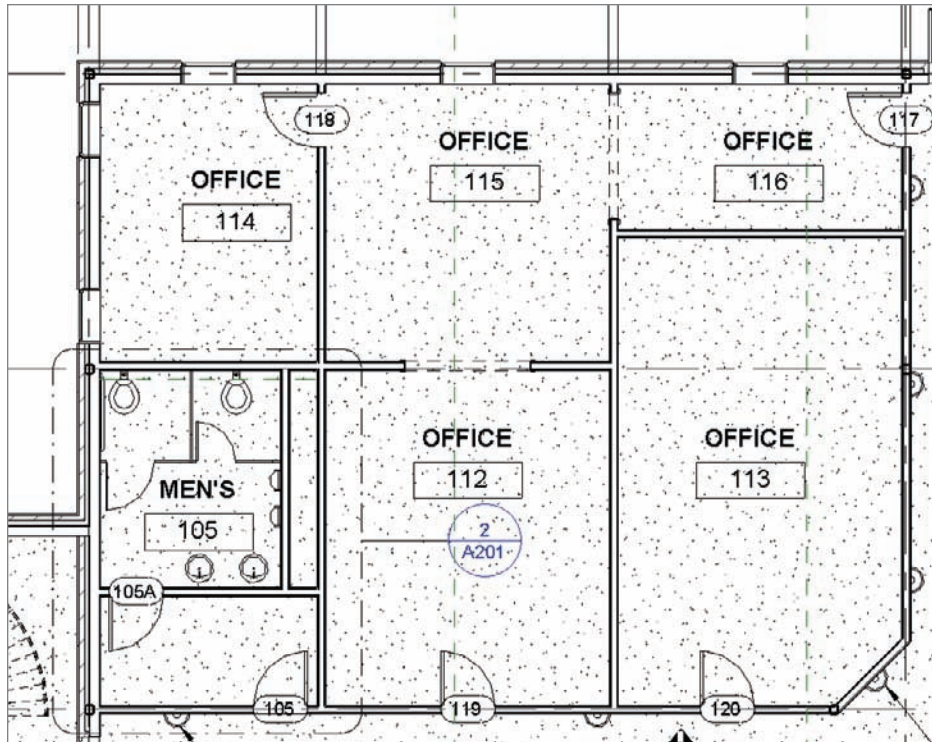

FIGURE 15.5 Naming the Men's lavatory
16. In the north lavatory, add a room named MEN'S 105 as shown in Figure 15.5.